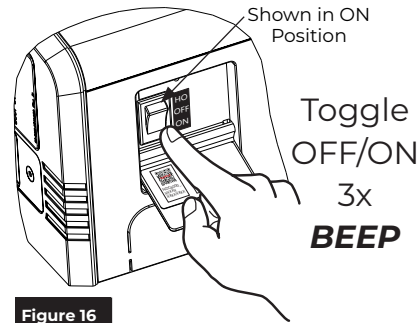

Figure 16
Toggle the 3-position switch located on the end cap three (3) times. (Figure 16)